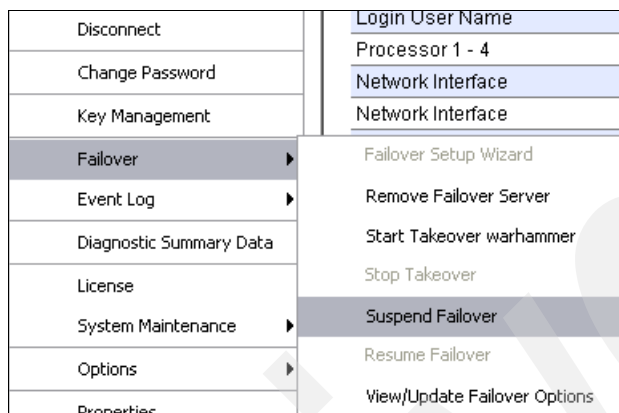

Figure 13-5 Suspend failover
1. If you are running with failover enabled, suspend failover prior to adding or removing the patches, as shown in Figure 13-5.